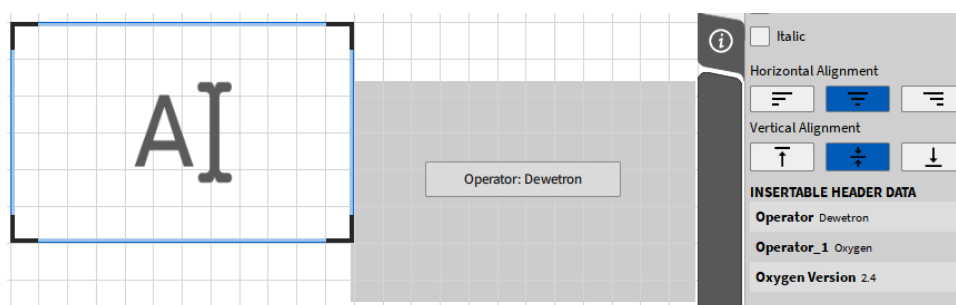

Fig. 5.26: Adding Header Data via drag and drop from the Text Box Instrument Properties to the measurement screen
- Select the desired Header information at the Header Name in the small view menu of the Measurement settings and add it by Drag and Drop to the Measurement Screen (see Fig. 5.26).